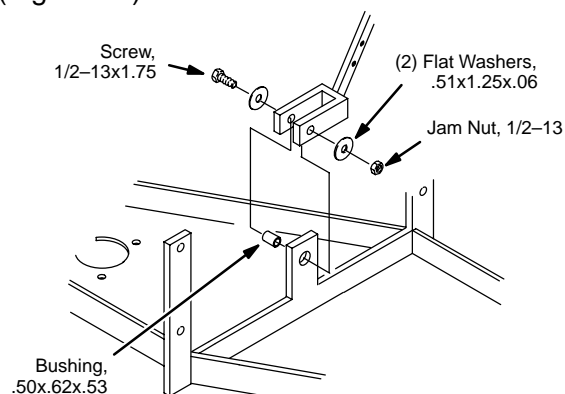

Fig. 15
3. Connect front end of scrub head lift pedal arm to scrub head bracket as shown (Figure 15).